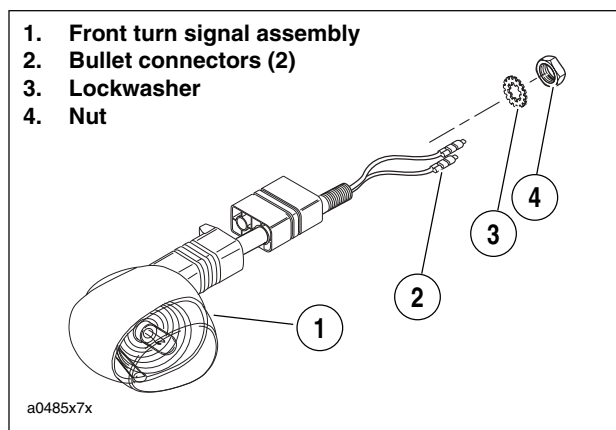

Figure 7-67. Front Turn Signals
3. See Figure 7-67. Remove nut and lockwasher.
1. See Figure 7-67. Install turn signal with lockwasher and nut. Tighten nut to 25-28 **in-lbs** (2.8-3.2 Nm).